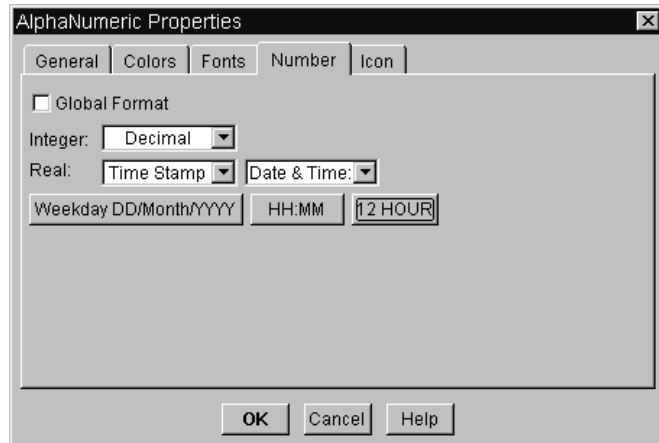

Figure 135 The AlphaNumeric Properties Box
- 9 Click **HH:MM:SS** to toggle to **HH:MM**. Click **24 HOUR** to toggle to **12 HOUR**. See Figure 135.